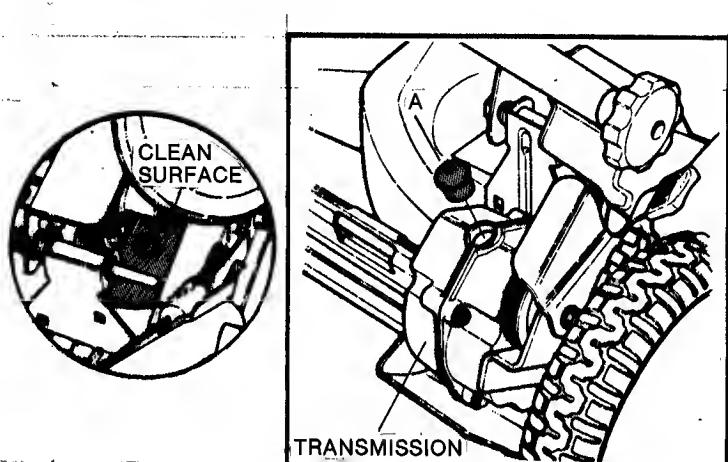

FIG. 8-TRANSMISSION PLUG A
• **TRANSMISSION (self-propelled models):** Remove plug (A) and check grease level every 25 hours of operation. If grease is not visible on the INPUT GEAR, add small amount of Snapper "OO" grease. Replace plug (A) after servicing transmission. Refer to FIG. 8.
• **MOVING PARTS:** Occasionally put a few drops of oil on "points of contact" (friction) between moving components such as ADJUSTING LATCHES (1), GROUND SPEED CONTROL (12), WHEEL DRIVE CONTROL (20), etc.